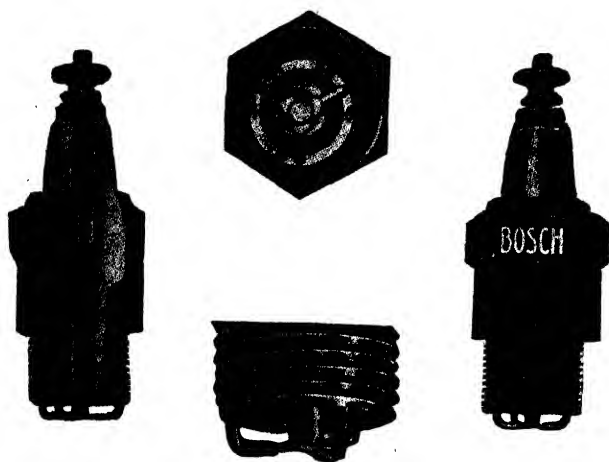

Fig. 55. Bosch High-Tension Spark Plug
*Electrode Arrangement.* Practice also varies considerably in the arrangement of the electrodes, taking the form of open points as in Fig. 52, a bridge as in Fig. 50, or a number of points as shown in Figs. 51 and 53. In some instances, the central electrode is enclosed in a chamber, the gas entering through a small hole in the shell, as shown in Fig. 54. Considerable advantage is claimed for the type of plug having a plurality of gaps, the number usually being three, as shown in Fig. 55, or four as in Fig. 53. It is more theoretical than actual, however, as the current always takes the shortest path and the